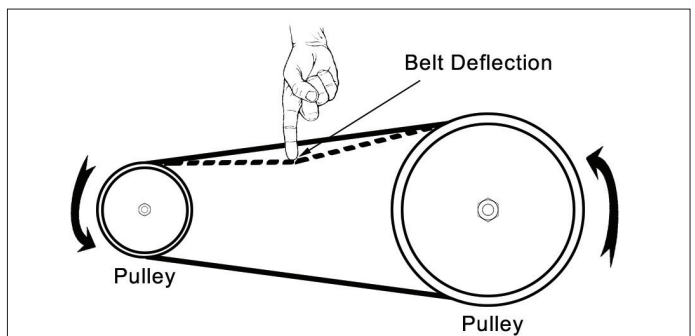

FIG. 24
4. Check the drive belt tension with finger/thumb pressure. The drive belt should not deflect more than 3/8" to 1/2" in the center. FIG. 24.